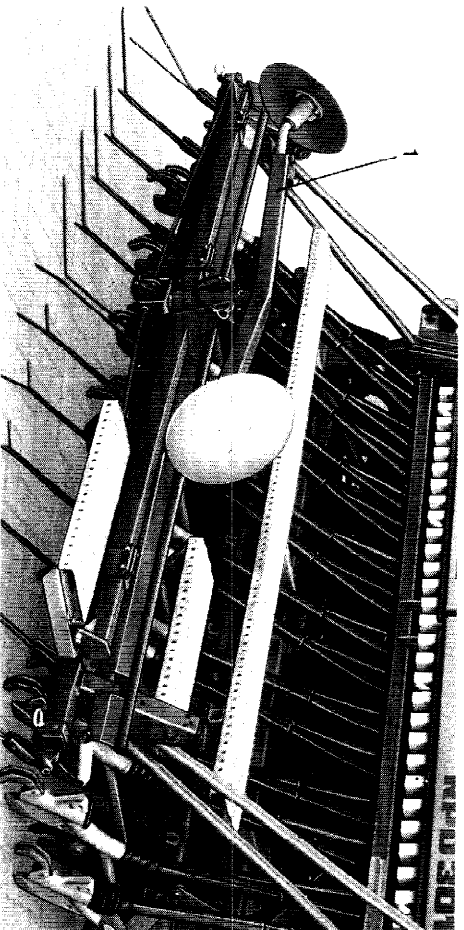
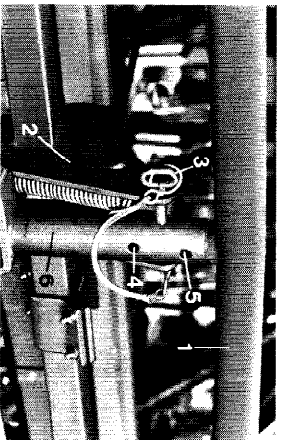

Fig. 98
Fig. 99
The marker disc carrier (Fig. 93/1) should after removing the securing pin (Fig. 99/3) be angled to that side on which the marker disc is mounted and set as follows:
- Lower setting hole (Fig. 99/4) for one-sided marking, right hand.
- Upper setting hole 8Fig. 99/5) for one-sided marking, left hand.
In transporting position the marker carriers (Fig. 99/2) and carrying arms (Fig. 99/6) should be mounted with the pin (fig. 99/3) and secured. The pre-emergence marker now is fully lifted and the marker carrier (Fig. 98/1) with the marker discs stands parallel with and above the Extra Coverage Following Harrow.
When **travelling on public roads** the marker carriers (Fig. 98/1) with the marker discs must be taken off.